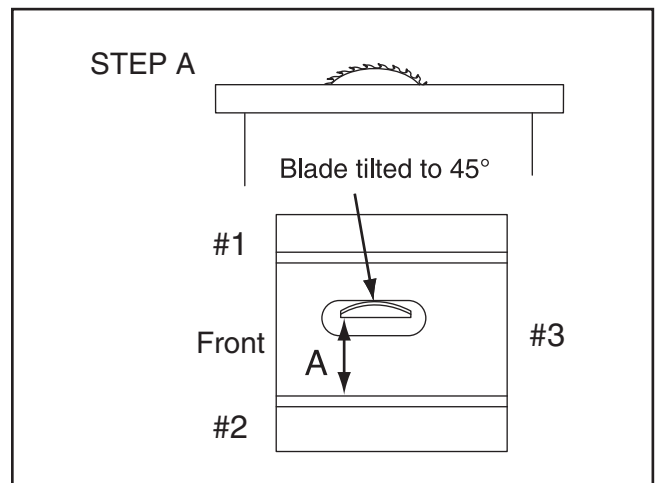

Figure 111. Shim procedure diagram A.
9. Loosen (4) table mounting bolts from **Step 6**.
10. Refer to **Figures 111–112** for shim placement. If distance A is shorter than B, shim(s) will need to be placed under corners #1 and #2. If the distance of B is shorter than A, shim(s) will need to be placed under corner #3. Very thin shim stock works well.